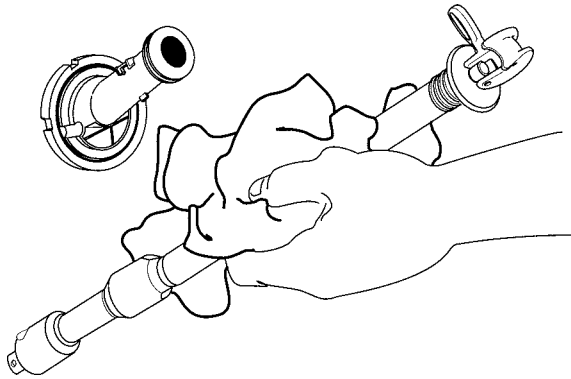

Figure 11. Remove fuseholder from Bay-O-Net housing and wipe clean.
2. Wipe off fuse cartridge holder and fuse cartridge (see Figure 11).